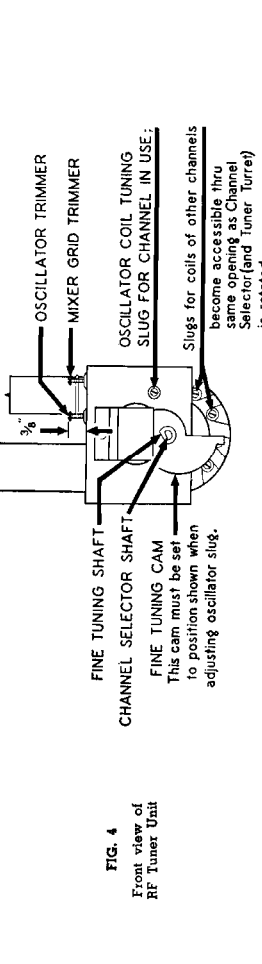

FIG. 4
2. During oscillator alignment, it is necessary to set the Fine Tuning control so that the bottom of the Retaining Spring tuning cam points down (correct position for this control is shown in Fig. 4).